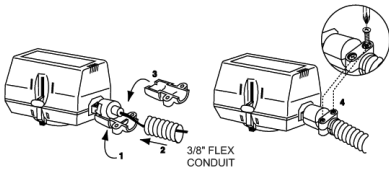

Fig. 3. Flexible Conduit Attachment
2. Connect leadwires. See figure 3 for flexible conduit installation with plenum-cable models.